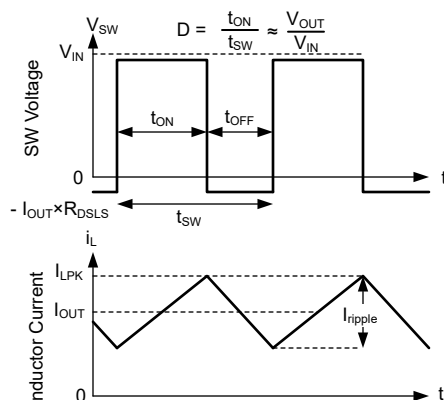

Figure 6-9. SW Voltage and Inductor Current Waveforms in Continuous Conduction Mode (CCM)
The following operating description of the TLVM65030 refers to Section 6.2 and the waveforms in Figure 6-9. Both supply a regulated output voltage by turning on the internal high-side (HS) and low-side (LS) NMOS switches with varying duty cycle (D). During the HS switch on-time, the SW terminal voltage, V_{SW} , swings up to approximately V_{IN} , and the inductor current, i_L , increases with a linear slope. The HS switch is turned off by the control logic. During the HS switch off-time, t_{OFF} , the LS switch is turned on. Inductor current discharges through the LS switch, forcing V_{SW} to swing below ground by the voltage drop across the LS switch. The regulator loop adjusts the duty cycle to maintain a constant output voltage. D is defined by the on-time of the HS switch over the switching period: $D = T_{ON} / (T_{ON} + T_{OFF})$.